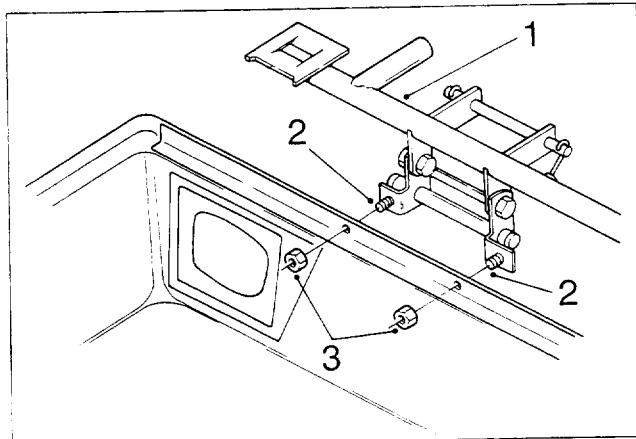

Figure 7
3. Mount the frame and hinge assembly to the bagger top (Fig. 7) using two $1/4" \times 3/4"$ bolts (already installed on the hinge assembly) and two $1/4"$ nylon lock nuts.